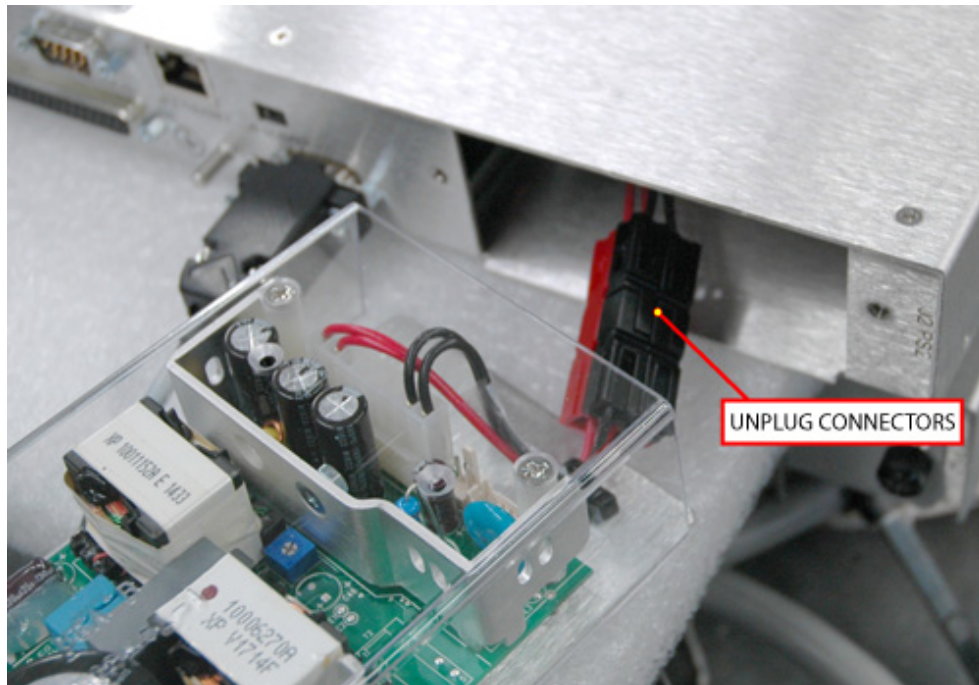

Figure 6: Unplug Power Pole Connectors
4. Unplug the quick-disconnect power pole connectors. See Figure 6.